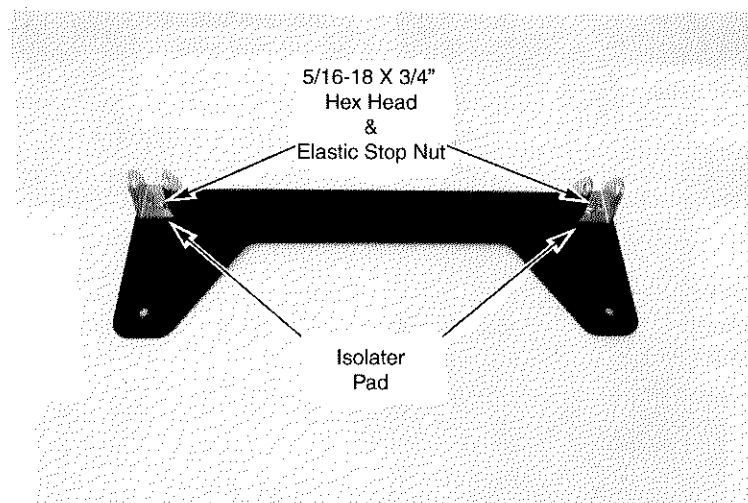

Figure 1. Attach U-shape Brackets
2. Assemble U-shaped headlamp assembly mounts to black light bracket with two (2) 5/16-18 x 3/4" hex head bolts and elastic stop nuts. Be sure to include the rubber isolater pads provided between the two brackets when installing. See Figure 1.